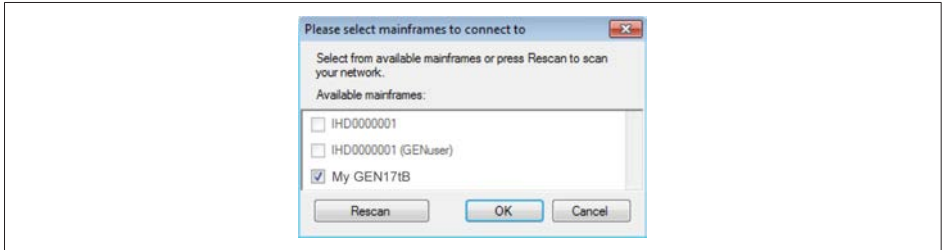

Fig. D.2 Mainframe selection dialog
- 1a. Press the **Rescan** button on the dialog above (see Fig. D.2) to initiate a new network search for the mainframe. Typically, the mainframe should appear within a few seconds.